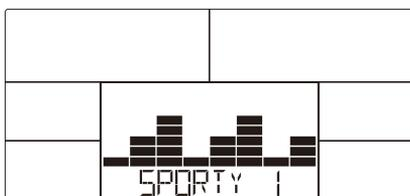

FIG. 16
2. Press UP or DOWN (Encoder) to select player modes 1 to 4 (Figure 16) and press MODE/ENTER to confirm entering.